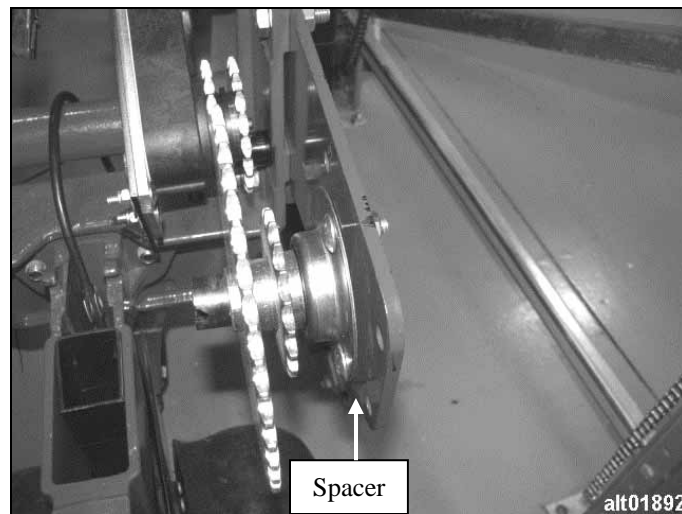

Figure 13. 3/16 in. thick spacer installed between drive assembly and side plate
2. Install provided 3/16 in. thick, triangular shaped spacer between drive sprocket assembly and row unit side plate as shown in Figure 13.